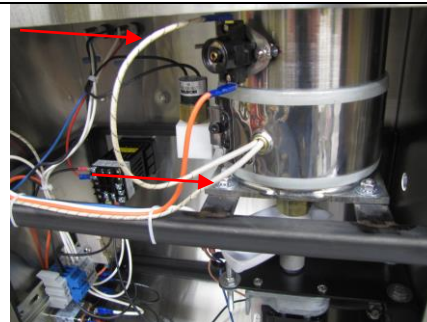
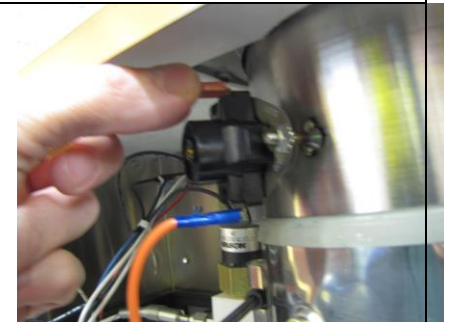

Figure 5
Figure 6
3. Identify the two wires that must be disconnected. See Figure 5. Follow the wire that curves upward to the Thermal Switch. Disconnect this wire connection as shown in Figure 6.